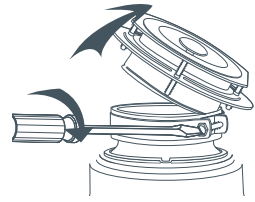

Fig. 2 Removing the mounting system from the waste disposer
- 1 Loosen the clamp screw to allow the mounting system to be removed (fig.2).